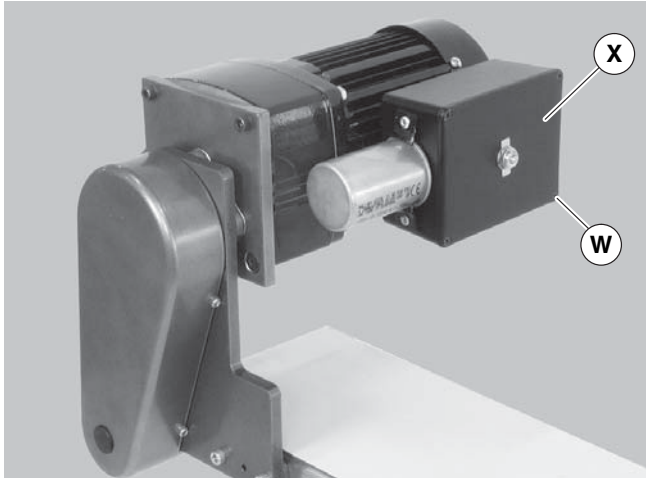

Figure 16
- a. Loosen terminal box screws (Figure 16, item W) and remove cover (X).